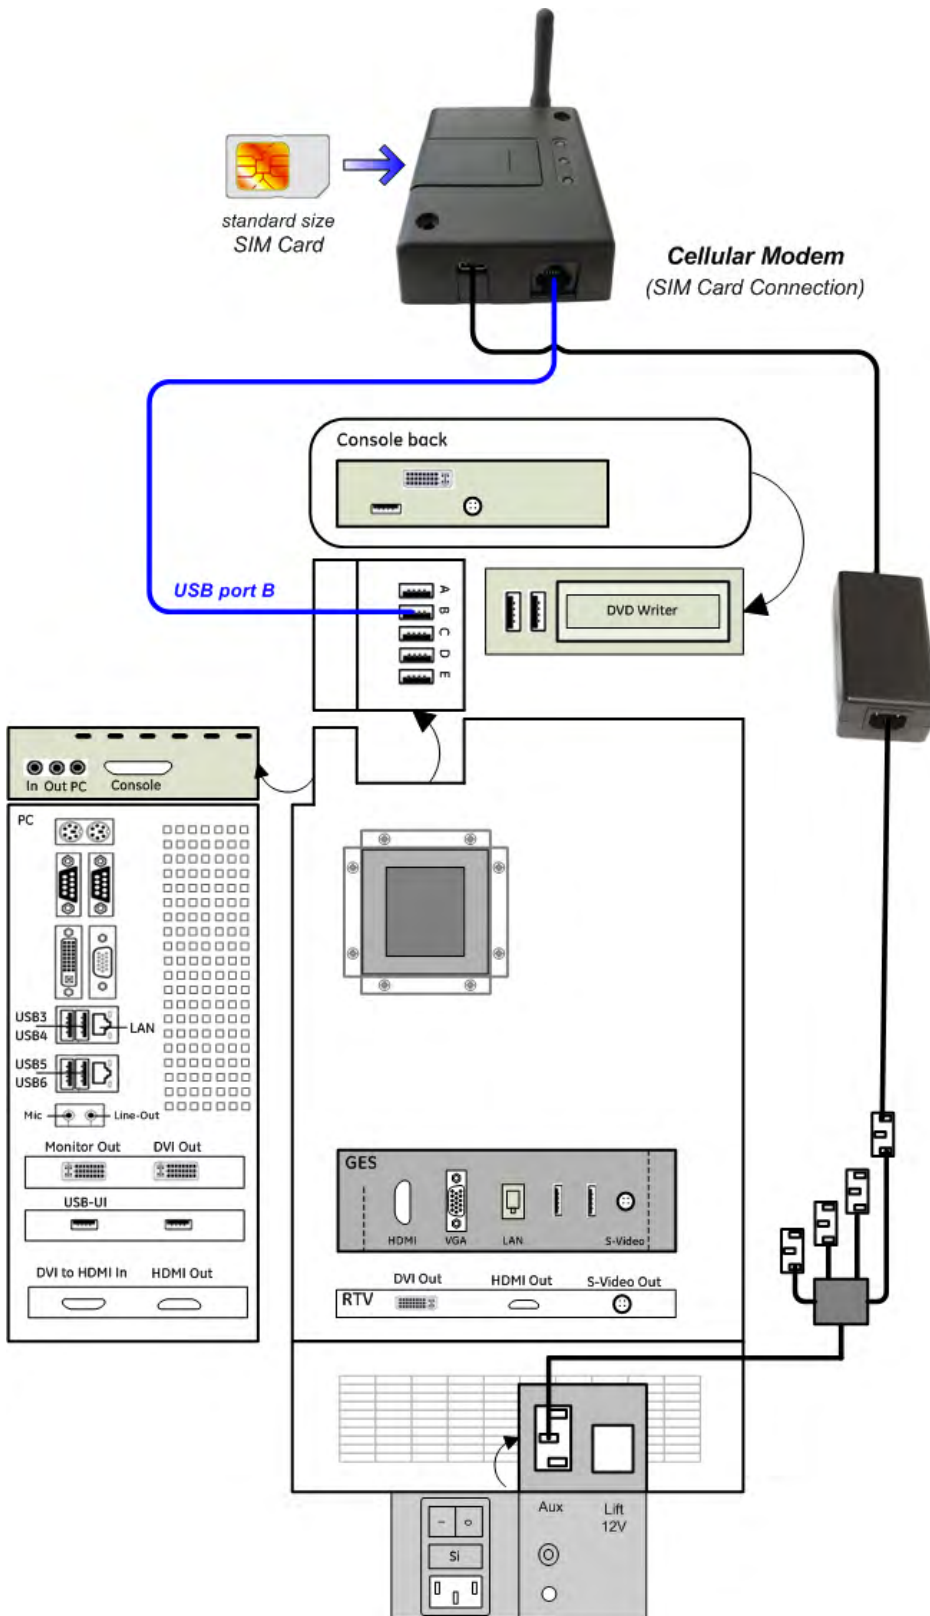

Figure 3-7 Connection Scheme - Cellular Modem
3. Connect the Cellular Modem according to connection scheme, see: Figure 3-7 on page 3-18.